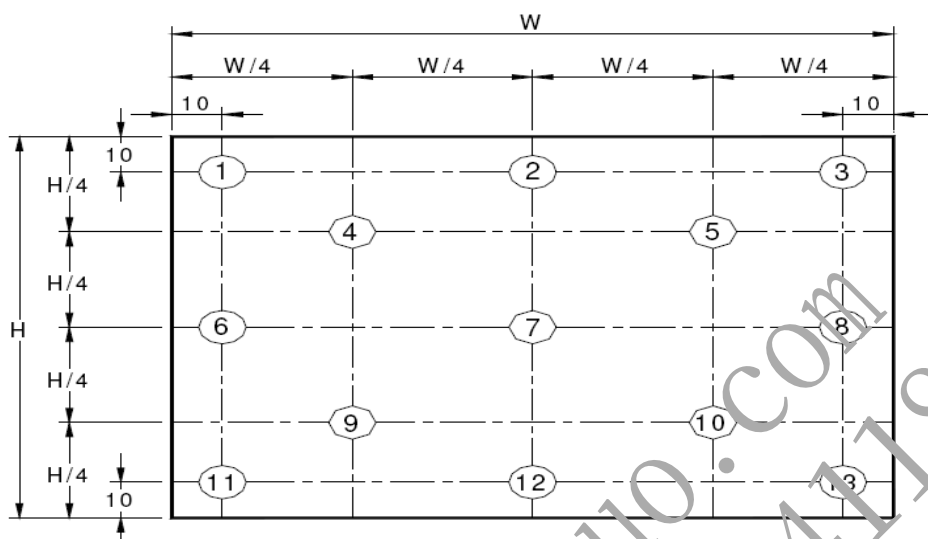

Figure 9. Uniformity Measurement Locations (13 points)
| <div>Notes :</div> <div>1. Viewing angle is the angle at which the contrast ratio is greater than 10. The viewing angles are determined for the horizontal or 3, 9 o'clock direction and the vertical or 6, 12 o'clock direction with respect to the optical axis which is normal to the LCD surface (see Figure 7).</div> <div>2. Contrast measurements shall be made at viewing angle of <math>\Theta=0</math> and at the center of the LCD surface. Luminance shall be measured with all pixels in the view field set first to white then to the dark (black) state . (see Figure 7) Luminance Contrast Ratio (CR) is defined mathematically.</div> <div> <div>CR =</div> <div> <div>Luminance when displaying a white raster</div> <div>Luminance when displaying a black raster</div> </div> </div> <div>3. Center Luminance of white is defined as luminance values of 5 point average across the LCD surface. Luminance shall be measured with all pixels in the view field set first to white. This measurement shall be taken at the locations shown in Figure 8 for a total of the measurements per display.</div> <div>4. The White luminance uniformity on LCD surface is then expressed as : <math>\Delta Y</math> =Minimum Luminance of 5(or 13) points / Maximum Luminance of 5(or 13) points.(see Figure 8 and Figure 9).</div> <div>5. The color chromaticity coordinates specified in Table 5 shall be calculated from the spectral data measured with all pixels first in red, green, blue and white. Measurements shall be made at the center of the panel.</div> <div>6. The electro-optical response time measurements shall be made as Figure 10 by switching the “data” input signal ON and OFF. The times needed for the luminance to change from 10% to 90% is Tf, and 90% to 10% is Tr.</div> <div>7. Cross-Talk of one area of the LCD surface by another shall be measured by comparing the luminance (YA) of a 25mm diameter area, with all display pixels set to a gray levell(L0/L255), to the luminance (YB) of that same area when any adjacent area is driven white or dark. (See Figure 11).</div> |                                                                                   |                                     |                                              |
The White luminance uniformity on LCD surface is then expressed as :  $\Delta Y5$  = Minimum Luminance of five points / Maximum Luminance of five points (see Figure 8) ,  $\Delta Y13$  = Minimum Luminance of 13 points / Maximum Luminance of 13 points (see Figure 9).